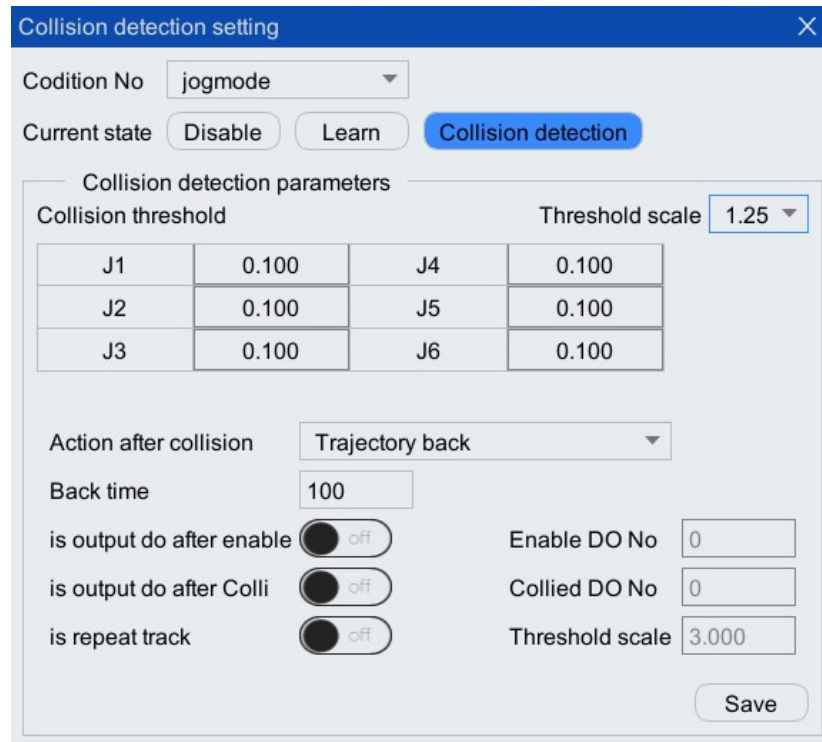

Figure 10-10 Collision detection settings interface
- Step3.Run the program and adjust the collision threshold based on the actual detection effect. If a false alarm occurs on a certain axis, increase the collision threshold for that axis and click <Save>. Refer to Figure 10-10.